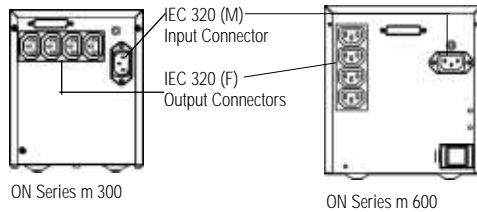

fig. 4: Input and Output Connectors for I and J Models
and (4) IEC 320 (F) output connectors as shown in fig. 4.